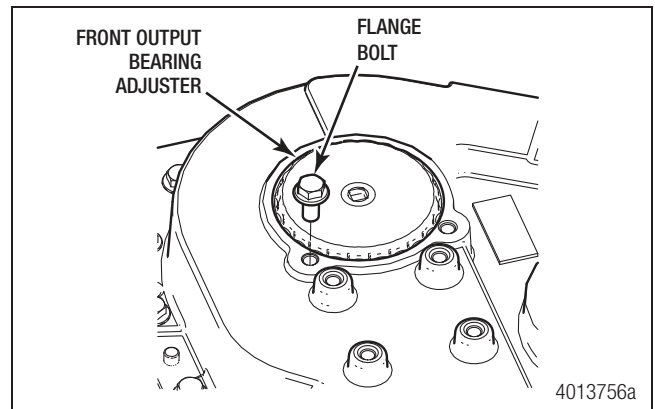

Figure 7.51
7. Apply Loctite 242 threadlocker to the flange bolt threads. Install the flange bolt to secure the adjuster in place and tighten to specification. Figure 7.51.